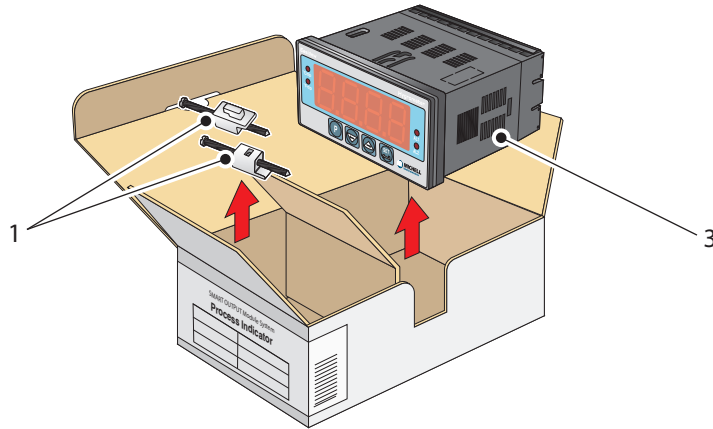

Figure 3.4 Process indicator
The process indicator (3) is packed, together with its fixing clamps (1) as shown in *Figure 3.4*.